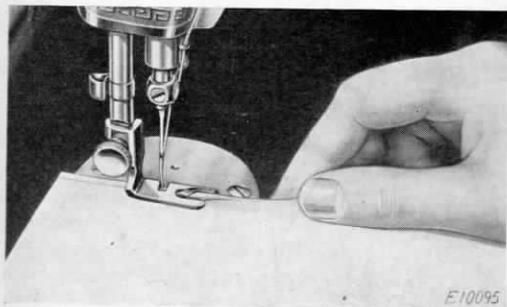

FIG. 40. STARTING A HEM AT THE EDGE
3. Draw the material toward you through the Hemmer, as shown in Fig. 40, at the same time making the second fold at the very edge. Continue to draw the material through the Hemmer until the edge is just under the needle. Place the upper and lower threads together under the Hemmer foot and assist in starting of the hem by slightly pulling the threads from the back as the machine is run.